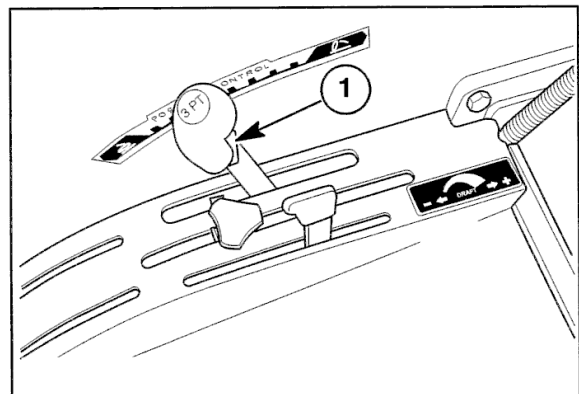

Figure 2-48
When operating in position control, there is a definite relationship between the position of the control lever in the quadrant and the position of the equipment. The lever (1) in Figure 2-48, must be moved to change the position of the equipment relative to the tractor. The system will automatically maintain the equipment in the selected position.